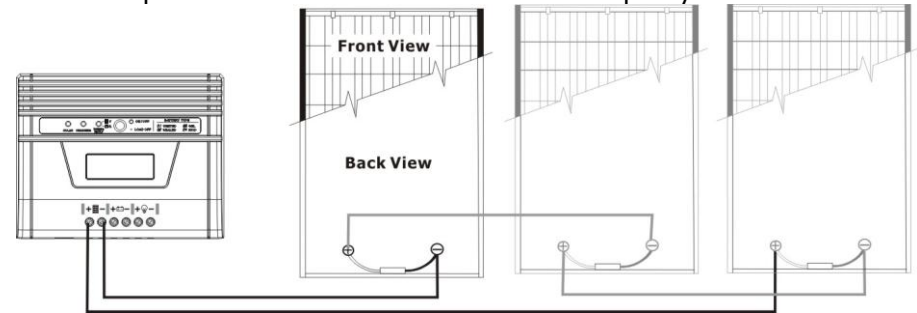

**Fig. 7**
- 1) Single solar module connection (Refer to Fig. 7):** When using a single solar module, its voltage must be equal to the Nominal DC Voltage of the unit (see below Table 1).